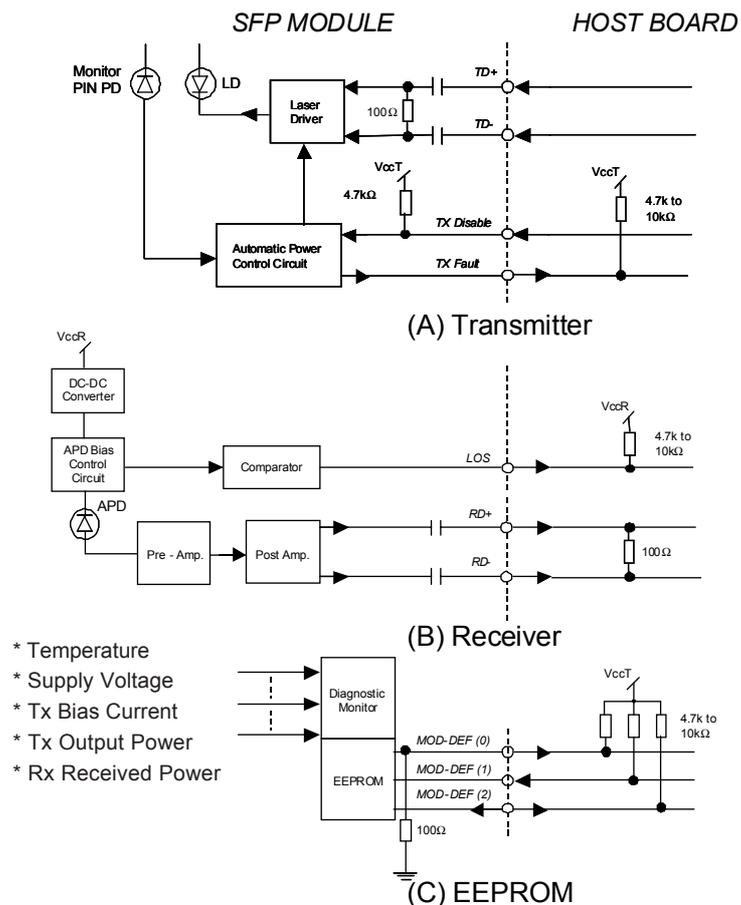

Figure 1. Block Diagram (Diagnostic Monitor is incorporated for SCP6EP4-GL-#N-xx only.)
- V_{cc}=+3.3V±5%, Output load resistance R_{dif}=100Ω. Refer to Figure1-(B).